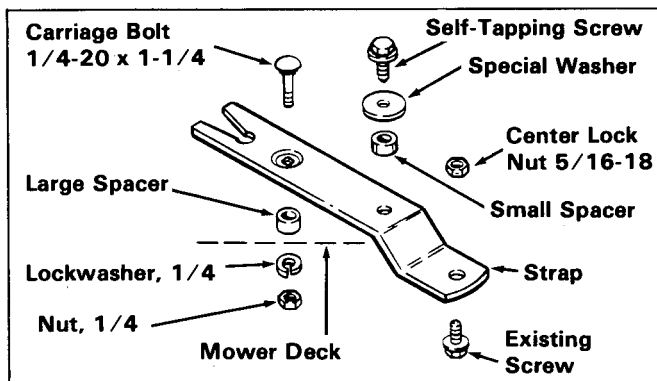

Figure 2.
8. Install strap to deck with hardware shown in figure 2.